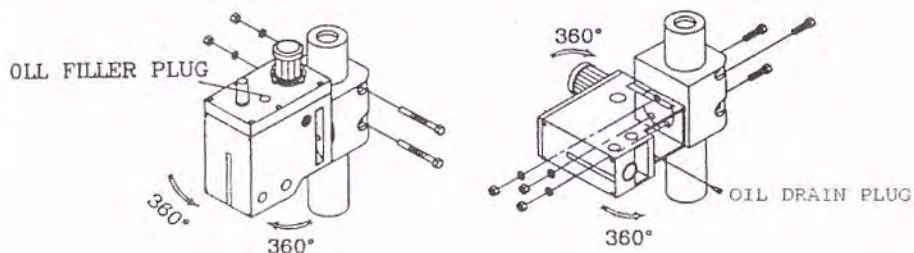

Fig.4
- a) To raise and lower the head, loosen the two heavy duty head lock nuts shown in Fig.4. Use the left side head handle to raise and lower the head on its rack and pinion mechanism. When the desired height is reached, tighten the bolts to avoid vibration.